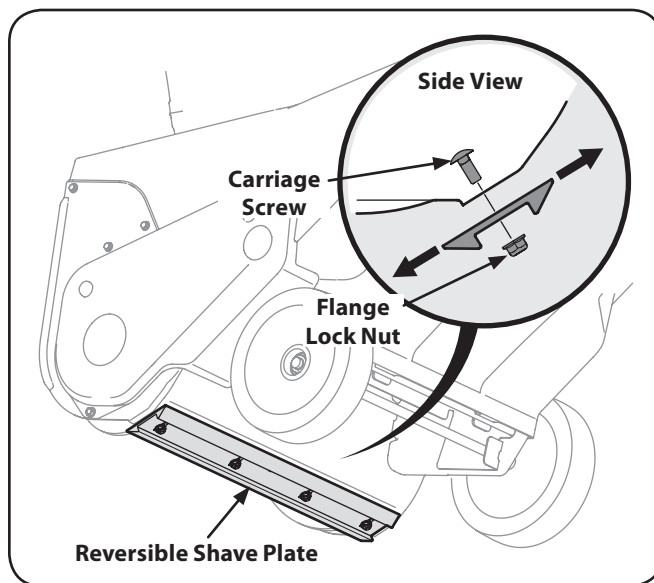

Figure 6-1
3. Loosen the four flange lock nuts and carriage screws which secure the shave plate to the housing. See Fig. 6-1. Move the shave plate to the desired position and retighten the flange lock nuts and carriage screws securely.